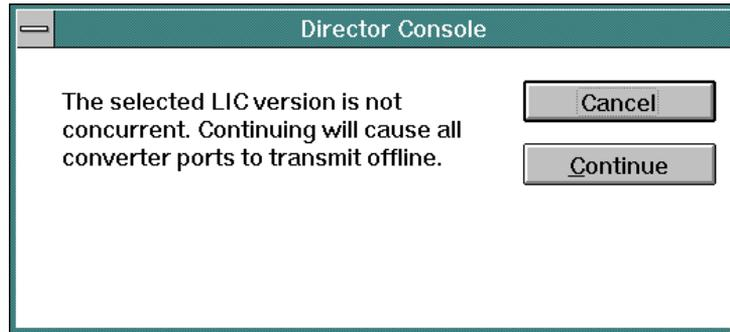

Figure 171. Nonconcurrent LIC Message Box
- If the LIC versions are *nonconcurrent*, FCV ports must be set offline and the message box shown in Figure 171 appears.